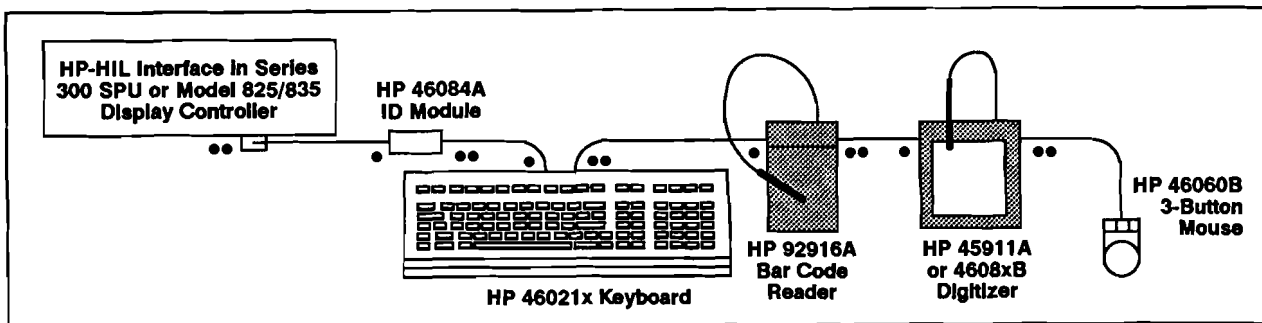

Figure 13-7. HP-HIL Connection Example
All Series 300 computers include a built-in HP-HIL host interface as do the display controllers of Series 800 Superworkstations. Most HP-HIL devices have a "towards host" (●) and an "away from host" (●●) female connector. Using appropriately keyed and coded HP-HIL cables, which are available in various lengths, multiple HP-HIL devices are daisy-chained from the single host interface. See Figure 13-7 connection example on next page.
- The total number of addressable devices must be seven (7) or less. Most devices use one address, except for extensions, which have no address, and the 46085A Control Dial Module, which has three addresses. See Table 13-5 for device addressing.
- It is possible to have more than one of the same device on the link. With respect to keyboards, the operating system establishes its single internal key-location-to-character code conversion table based on the language ID of the first keyboard-type device encountered. An application using a 92916A bar code reader, which emulates a keyboard, should have the reader configured "downstream" of the keyboard, as shown in Figure 13-7, above. An application, such as text translation, that uses two different keyboards must perform a secondary conversion on characters sent from the second keyboard.
The HP-HIL connected HP 92916A Bar Code Reader emulates the terminal keyboard in that the bar coded characters it reads are sent to the display and the computer as if they had been keystroked. The 92916A Bar Code Reader connects via HP-HIL as shown in Figure 13-7, above.